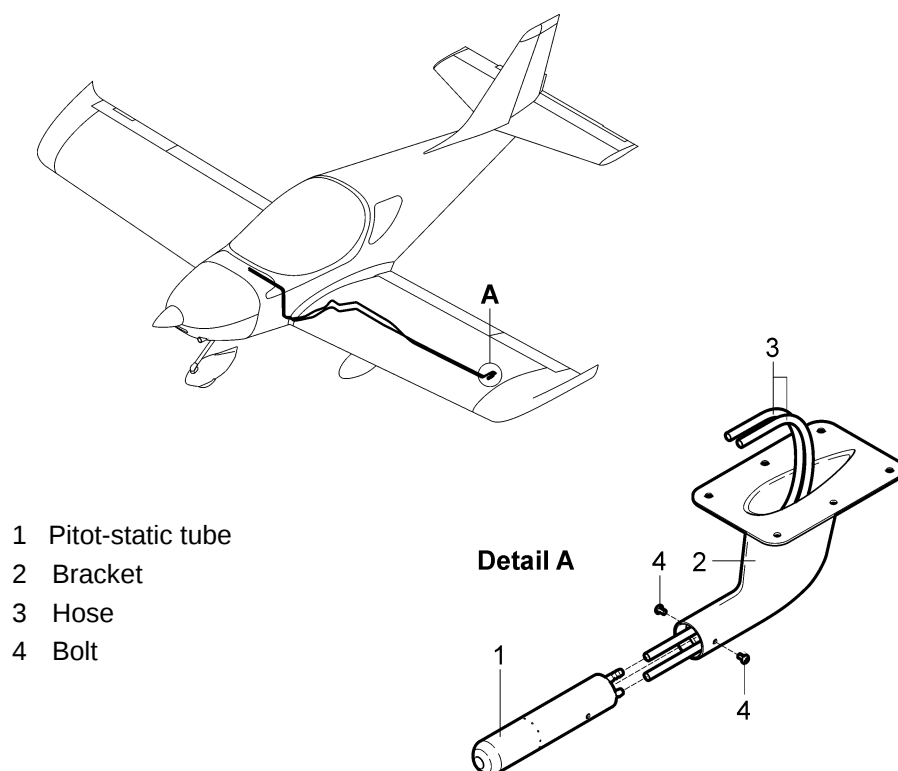

Fig. 12-25: Removal / installation of the pitot-static tube
- (a) Loose securing bolt (4, Fig. 12-25) in the pitot-static tube bracket (2) and pull out a bit the pitot-static tube (1) with hoses from the bracket.
- (b) Remove the cable ties from hoses (3). The hose and tube for static pressure line mark by **S** letter and for total pressure mark by **T** letter.
- (c) Disconnect the transparent hoses (3) of static and total pressure from the ports on the pitot-static tube (1).
- (a) Connect the hoses (3, Fig. 12-25) to the ports on the pitot-static tube (1) and secure them with cable ties.